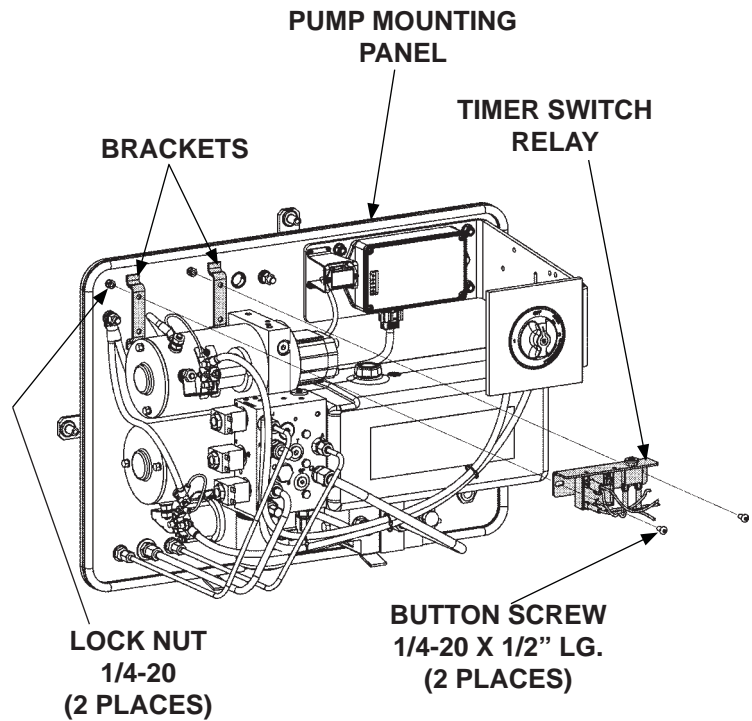

FIG. 4-1
3. Bolt timer switch relay (Kit item) to pump mounting panel as shown in **FIG. 4-1**.